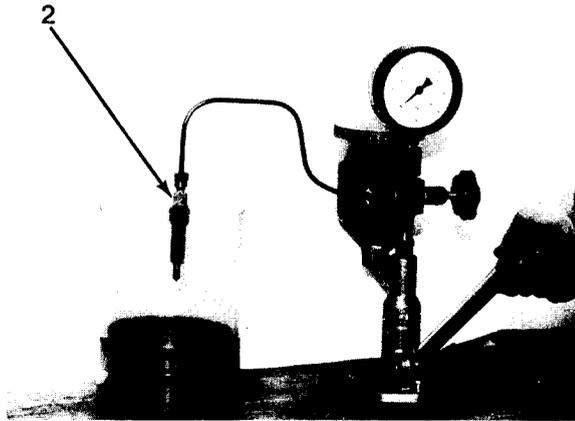

Figure 7-13
1. Install nozzle tester to injector nozzle (2, Figure 7-13).